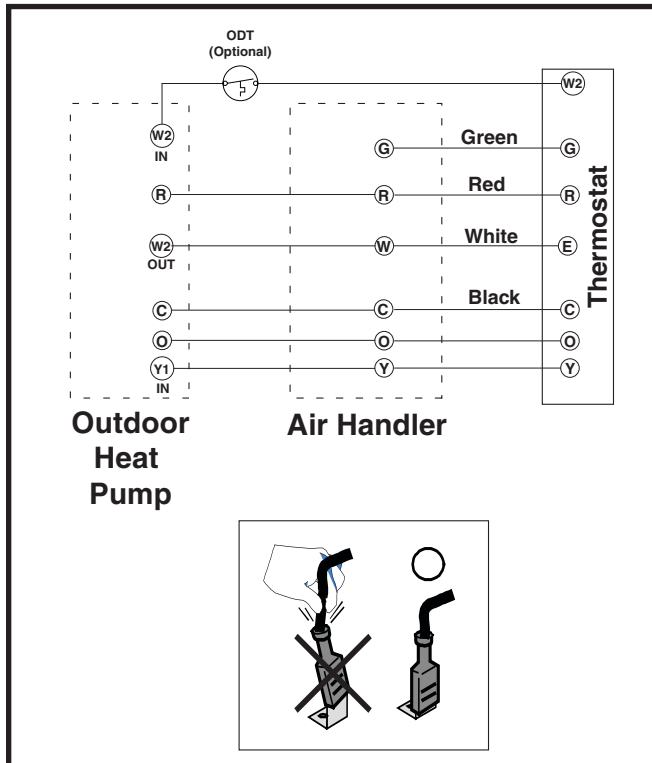
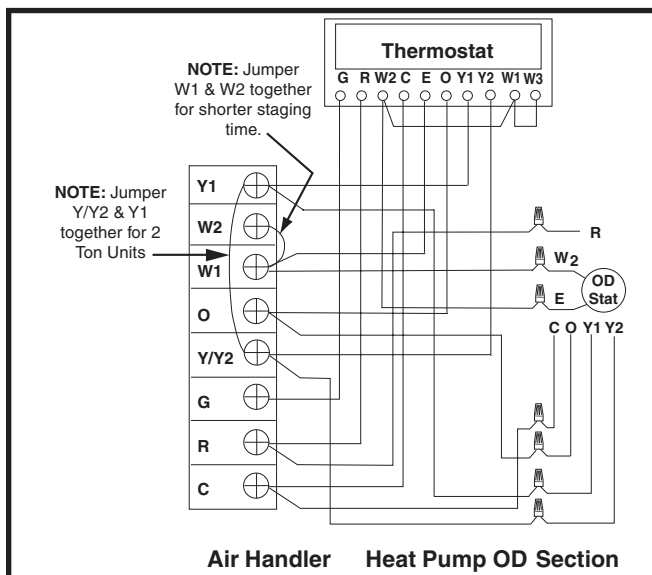

Figure 4. Thermostat Connections for SH1BF4M1SP 2 - 4 Ton Units
Figure 5. Thermostat Connections for SH1BF4M2SX 5-Ton Units
- Thermostat connections should be made in accordance with the instructions supplied with the thermostat and the indoor equipment. For typical installations with a heat pump thermostat and air handler see Figure 4 and Figure 5.